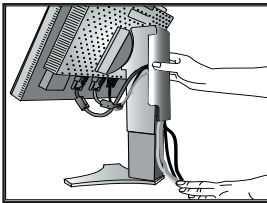

Figure 9
7. Slide the Cable Cover back into its correct position (Figure 9). Connect the power cord to power outlet.